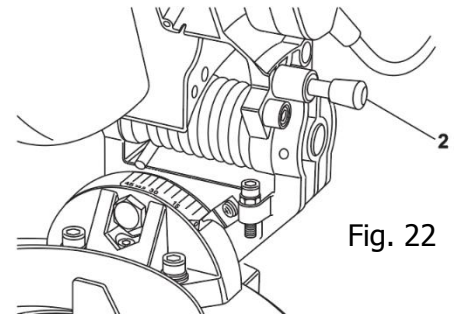

Fig. 22
- 2 . Pull out the handle stop latch 2 (Figure 22).